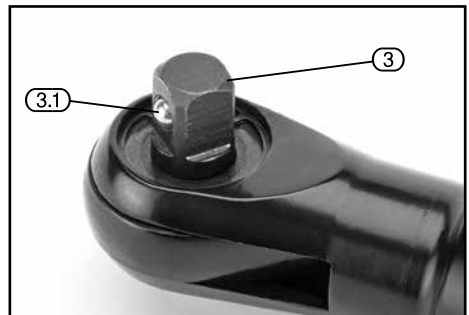

FIG. 3
8.3 ANVIL – FIG. 3
- Ensure the socket correctly locates on the 3/8" square drive (3) firmly engaging on the locating ball (3.1).